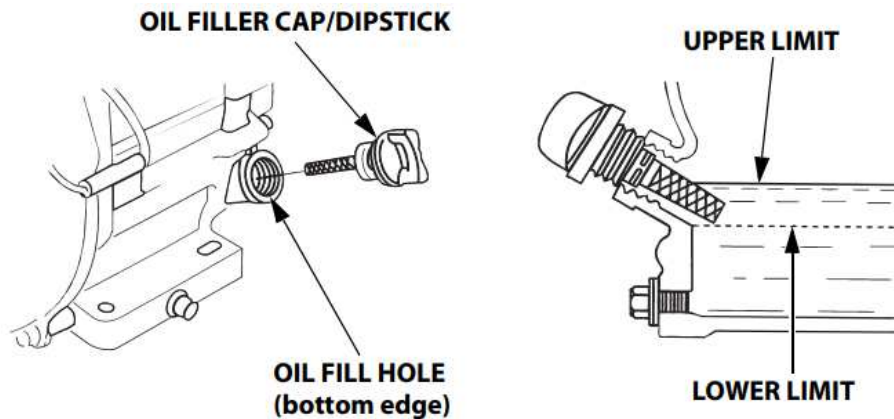

Fig. 8
**The oil level can only be checked when the engine is switched off and cool.** Take the dipstick (Fig. 8) out and clean with a clean cloth. Then insert it all the way back into the oil pipe without screwing the cap on. Check the oil level after removing it. If the oil level is too low (below the minimum level mark), add the correct oil without exceeding the maximum level.